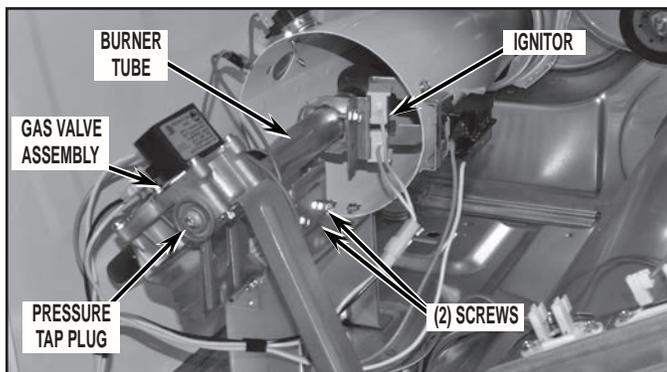

FIGURE 19B
- Disconnect ignitor wires from harness then remove the burner tube by removing the two (2) screws securing it to the burner base. See *Figure 19B*, then continue to Step 22 "Changing the Orifice."